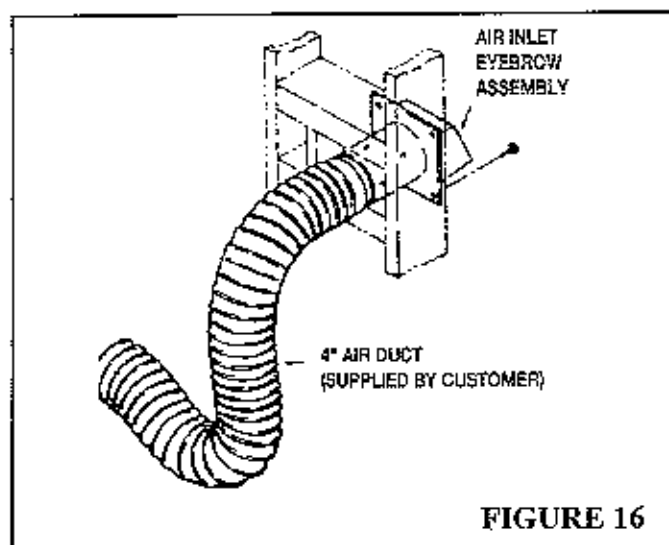

FIGURE 16
STEP 7: Install the air inlet eyebrow through the wall opening as shown in Figure 16. Push a 4" diameter NON-COMBUSTIBLE Class 0 or Class 1 flexible duct onto the eyebrow.